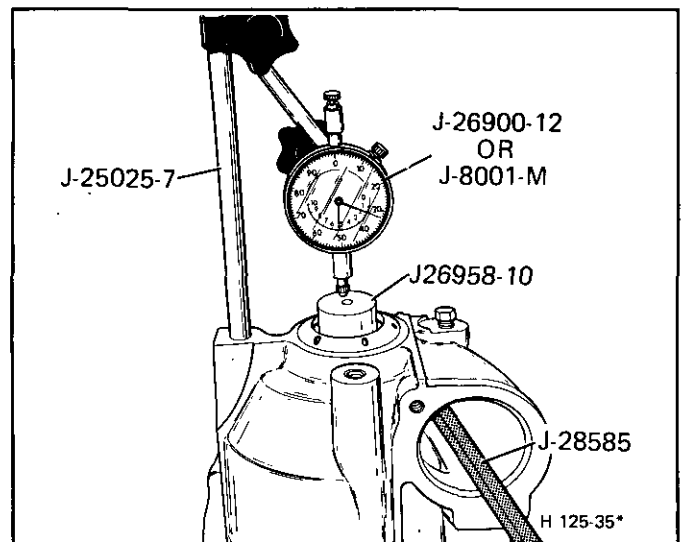

Figure 54 Final Drive End Play Selective Thrust Washer Measurement (680)
Measure (Figures 54 and 55)
3. Reading on the dial indicator should be 0.12-0.82 mm (0.005"-0.032") For correct washer selection, see Figure 54.